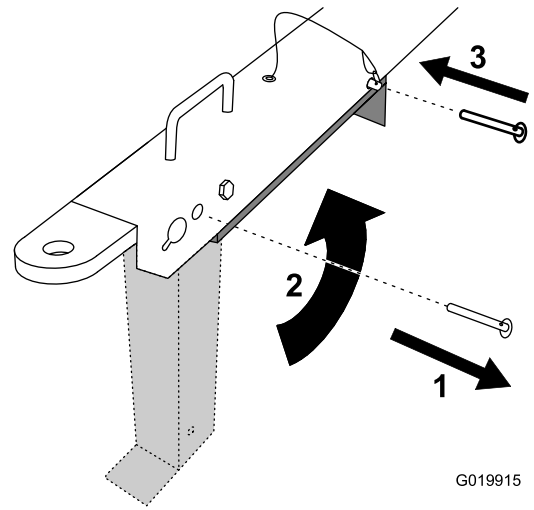

Figure 21
- Pull the clevis pin out from the front stabilizer leg and the tongue (Figure 21).
- Rotate the front stabilizer leg up into the tongue (Figure 21).
- Push the clevis pin through the rearward hole in the tongue and the front stabilizer leg (Figure 21).